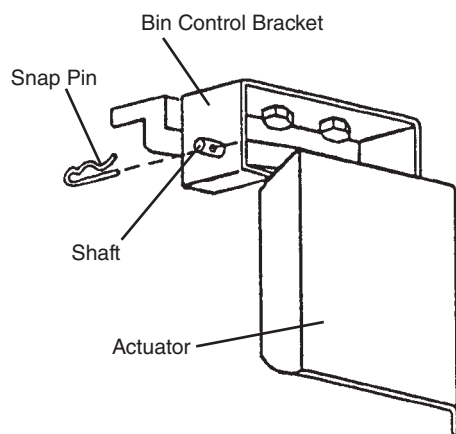

Fig. 7
- 5) Remove the bin control assembly. See Fig. 7.